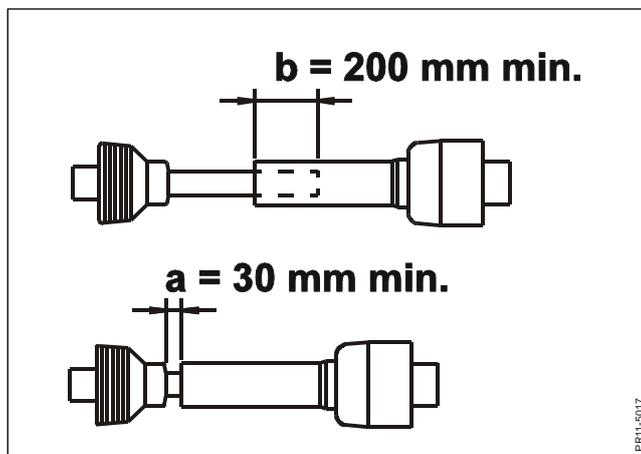
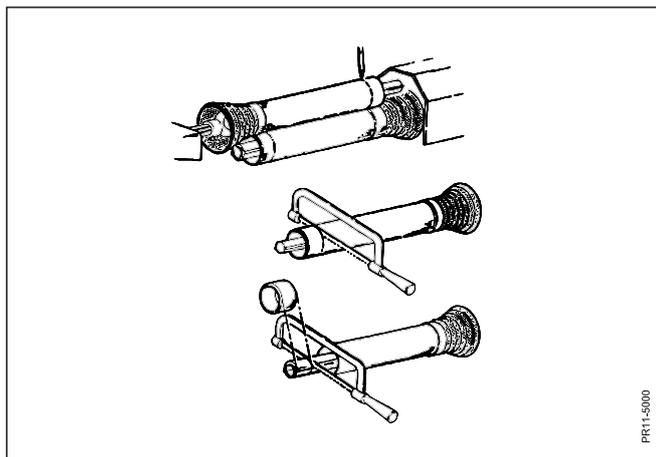

Fig. 2-10
Fig. 2-12
- Fig. 2-10** Adjust the length of the PTO shaft so that it:
**Fig. 2-12** Fasten the halves of the shaft to PTO and PIC (fig. 2.10), respectively, when these are right opposite each other with the machine in working position. (The longest distance on this machine). Hold the shaft ends parallel to each other and mark the required shortening, minimum 200 mm overlapping. Shorten all 4 tubes equally. The ends of the profile tubes must be rounded off and burrs must be removed carefully. It is very important that the tubes are smooth and clean before greasing. Grease the tubes carefully before reassembling.
**WARNING:** Never turn so sharply that there are less than the prescribed 30 mm distance in order not to bottom the shaft. See measurement a in fig. 2-10.